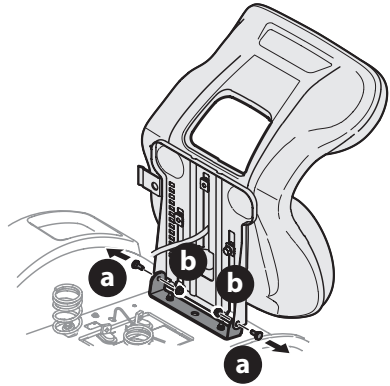

Figure 2
2. Remove the two shoulder bolts (a) and flange lock nuts (b) in the seat pan (Figure 2).